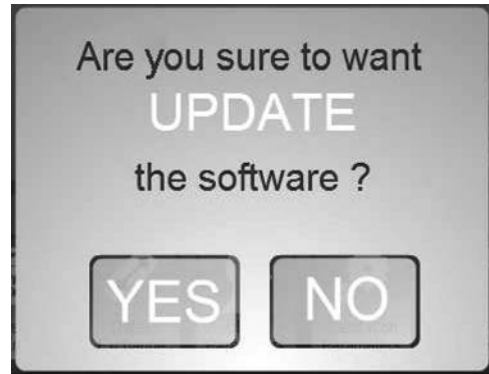

Fig. 124
9. Select YES on update message (Fig. 124) displayed on screen.